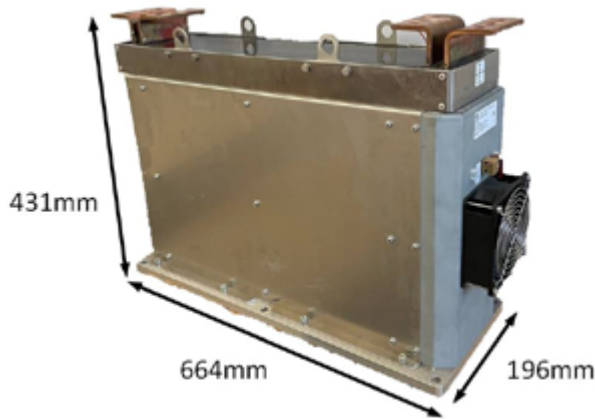

Figure 2: Medium Frequency Transformer
As a core material for medium-frequency transformers, nano-crystalline material is often used since it provides high saturation flux density and low losses. However, the transformer in the presented DC-DC converter has a core made of ferrite which offers a cost-effective solution even compared with low frequency transformer. That ferrite core material can be used in such 500 kW converter is enabled by the low switching losses of the SiC power modules and the resulting high switching frequencies. Furthermore, the transformer uses a strip winding for low leakage inductance and forced air cooling. The medium-frequency transformer and its dimensions are shown in Figure 2. The resulting leakage inductance and magnetizing inductance as well as the DAB parameters are shown in Table 1. The leakage inductance is a crucial parameter. Its limits the rate of current rise in case of  $V_{DC1} \neq V_{DC2}$ . Furthermore, according to (3), it must be lower than 3.5  $\mu\text{H}$  to avoid power derating at given DC-DC converter parameters.